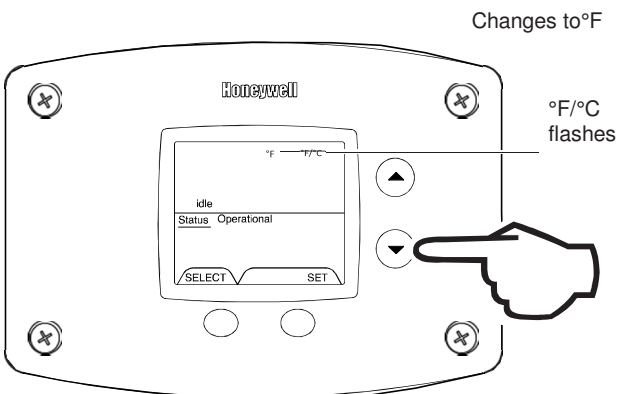

Fig. 23
- 3b. Press 'Temperature Down' button to change temperature format to °F (Fig. 23).